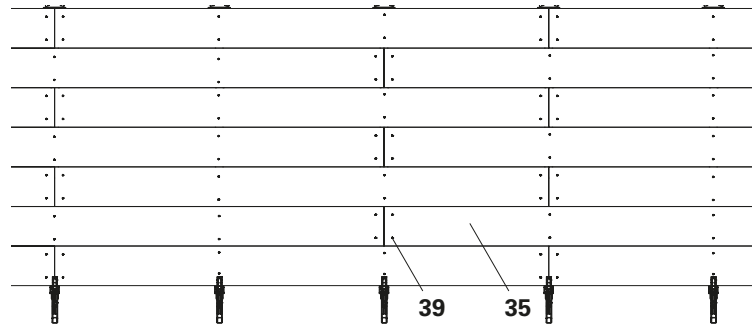
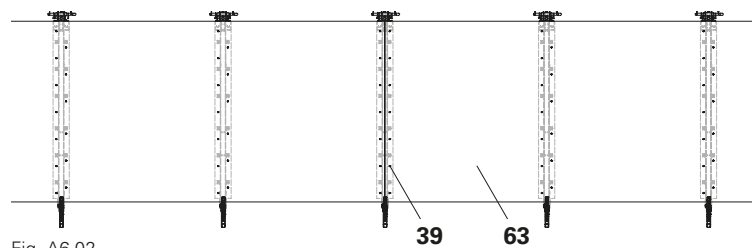

Fig. A6.01
Fig. A6.02
- Planking (35) spans a minimum of two bays, with offset joints.
- Fit planking onto each platform beam with Wood-Screws 6x80 SK-TX30 HPI (39). (Fig. A6.01 + Fig. A6.02)